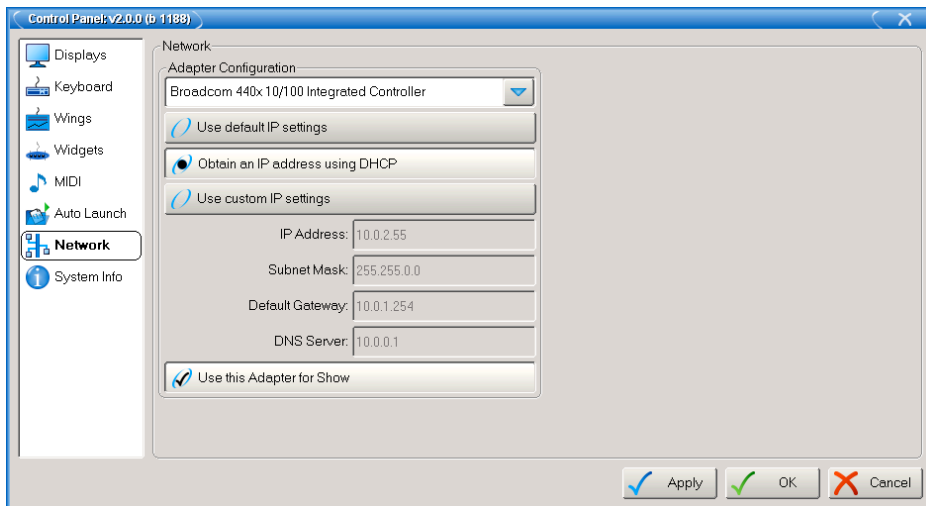

Figure 12.8. The Network pane of the Control Panel for a Hog 3PC
1. Setup → Control Panel → Network : open the Network pane of the Control Panel; see Figure 12.8, “The Network pane of the Control Panel for a Hog 3PC”.